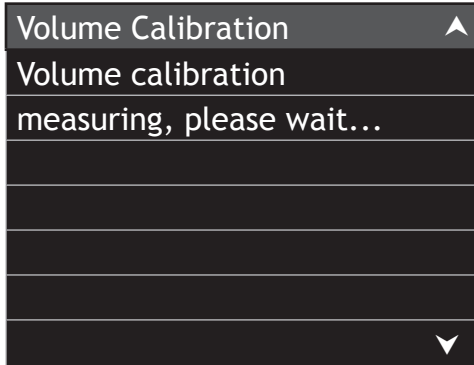
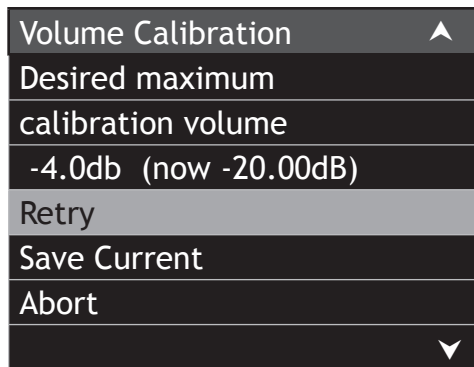
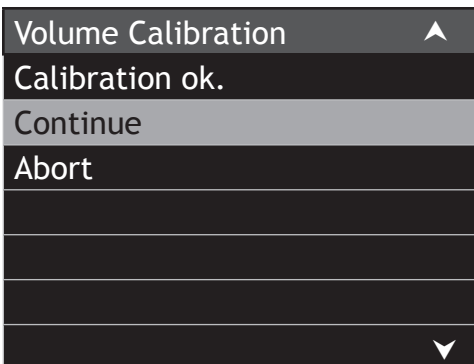
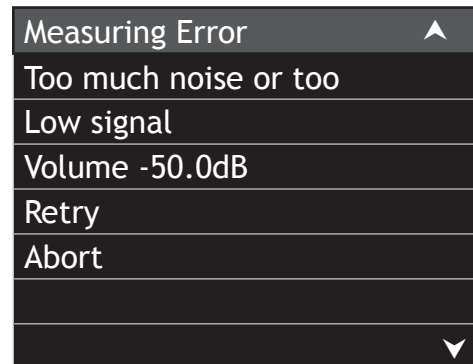

Figure 27
Figure 28
Figure 29
Figure 30
5. Press the SELECT Push-button and the “Volume Calibration measuring” will appear. Refer to figure 27. The MX151 will send out to each of the loudspeakers, one at a time, a test tone to obtain a measurement level making sure it is above the background noise level in your room. Several minutes after testing, figure 28 (on page 26) will appear on-screen. Select “Save Current” and press the SELECT Push-button. When figure 29 (on page 26) appears On-Screen, select continue and press the SELECT Push-button.
Note: The Desired maximum calibration volume (-4.0db) level and the current (now -20.00dB) volume indications in figure 28 will probably be different in your room. The size of your room, loudspeaker distance from the microphone position and the efficiency of the loudspeakers all effect the readings. If the test signal was too loud, reduce it by using the Volume Control by 10dB (the example in figure 28 would now read -30.00dB). Select "Retry" then "Save Current". If for some reason the volume level needs to be higher, a "Measuring Error" will appear on the screen refer to figure 30.